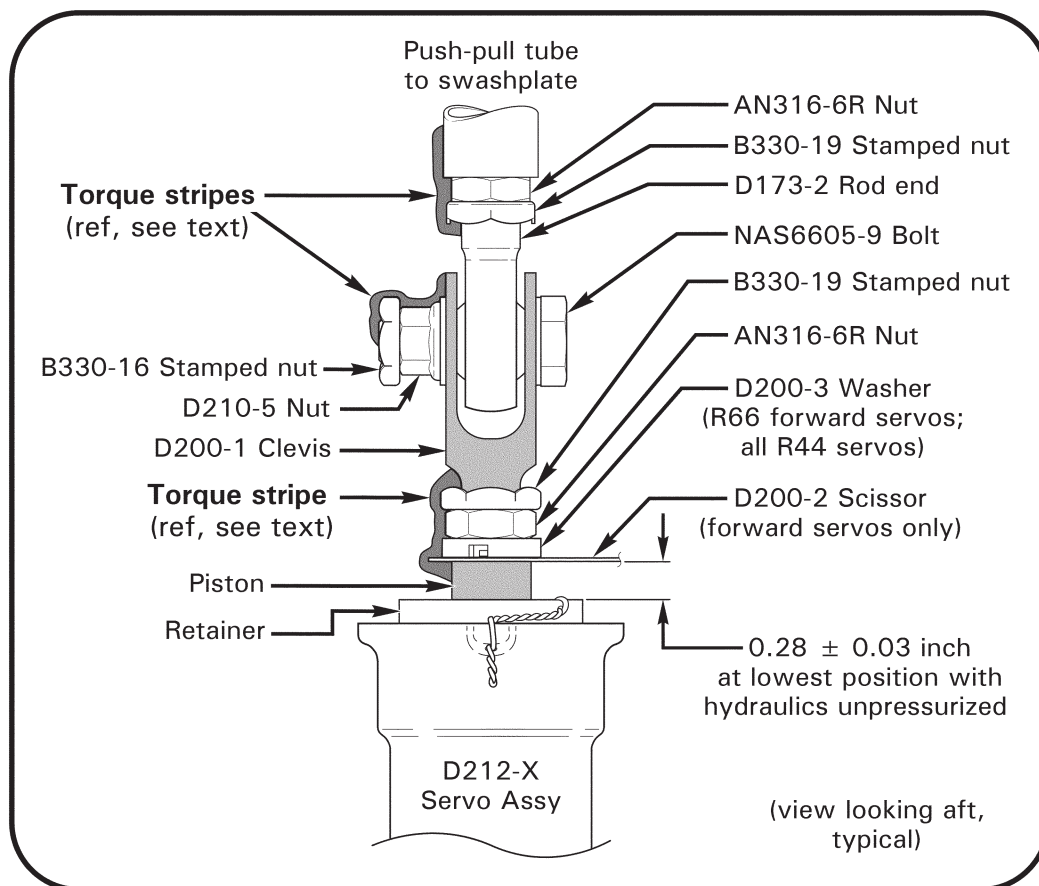

Figure 1: Hydraulic Servo-to-Swashplate Push-Pull Tube Connection (3 Places)
3. Refer to Figure 1. Clean hydraulic servo-to-swashplate push-pull tube connections and remove old torque stripe. Remove & discard (3) stamped nuts from bolts. Completely loosen (3) stamped nuts on rod ends, and completely loosen (3) stamped nuts on clevises; exercise care to loosen stamped nuts only and not AN316-6R nuts.
7. Install (3) new B330-16 stamped nuts on (3) NAS6605-9 bolts. Standard torque stamped nuts per R44 MM § 23-32 or R66 MM § 20-32.
8. While holding adjacent clevis immobile, standard torque (6) B330-19 stamped nuts per R44 MM § 23-32 or R66 MM § 20-32.
9. Refer to Figure 1. Clean and dry surfaces for torque stripe application. Fully lower collective. Apply torque stripe. When applying torque stripe to the D200-1 clevis-to-piston connection, the stripe must be visible from the right side of the aircraft and extend from the clevis, across all hardware, to the piston; ensure torque stripe does not contact retainer when piston is in lowest position.